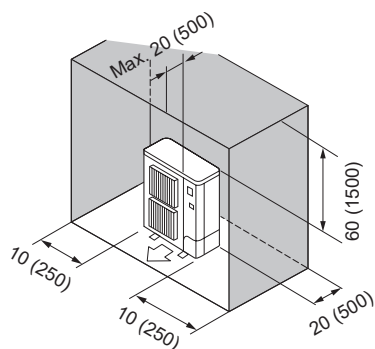

Fig. 2-10
- ⑥ Obstacles at rear, sides, and above (Fig. 2-10)